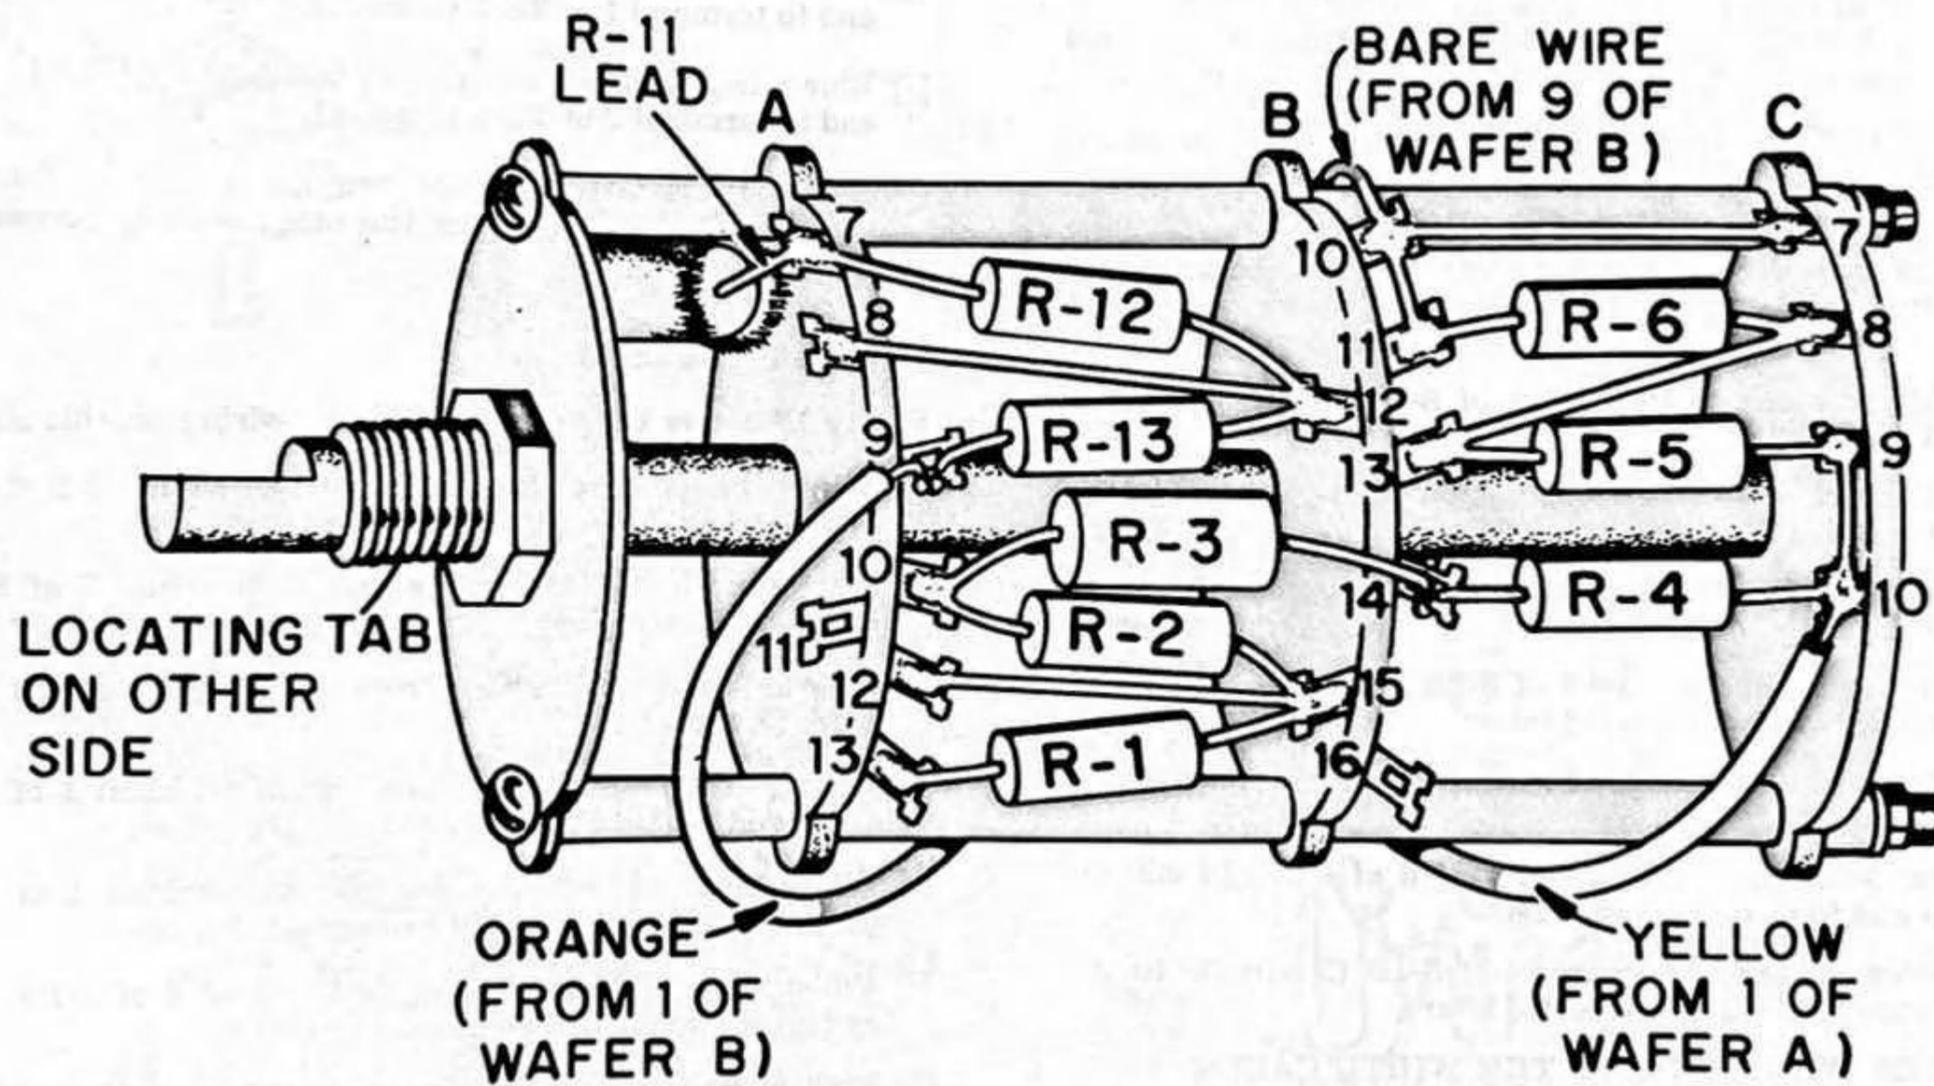

FIGURE 12. SECOND WIRING OF THE RANGE SWITCH, S-2
SEE FIGURE 12, ALSO FIGURE 11 ON A SEPARATE SHEET.
- Position S-2 RANGE SWITCH as shown in Figure 12, with the locating tab away from you.